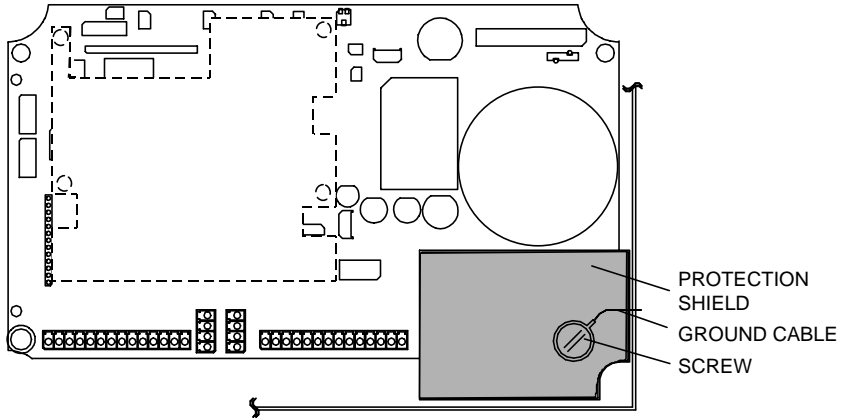

Figure 3.1 - Protection shield position
- 1) Unscrew the screw on the protection shield indicated in figure 3.1, paying attention to the cable which is connected to the electrical ground.